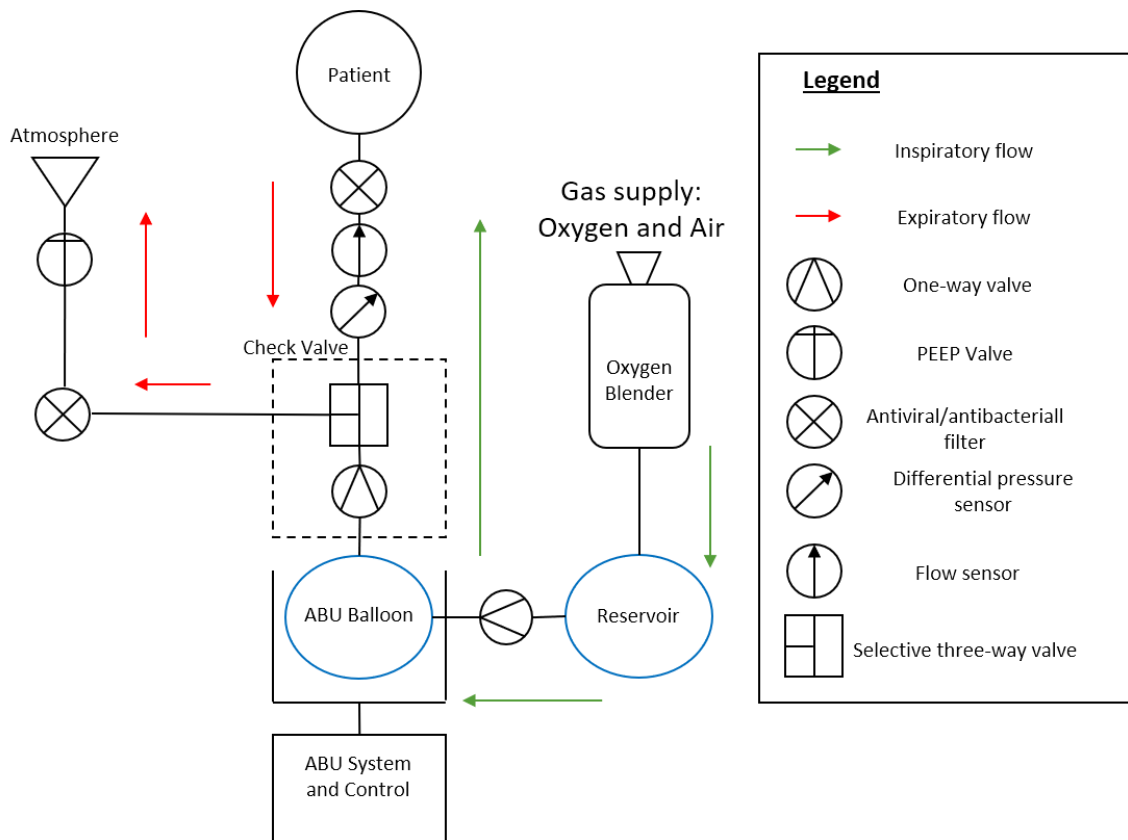

Figure 5.3: Functional block diagram of the ABU ventilator in assisted ventilation mode without CFF.
- By using ABU Y-connector, equipped with ABU Y-connector one-way valve (as in Figure 5.3) connected to an air source or oxygen mixture (e.g., an oxygen blender) it is possible to equip the ABU ventilator with CFF at positive pressure of the set PEEP value, able to eliminate excess CO2 residues from the circuit and compensate the losses of the circuit itself.